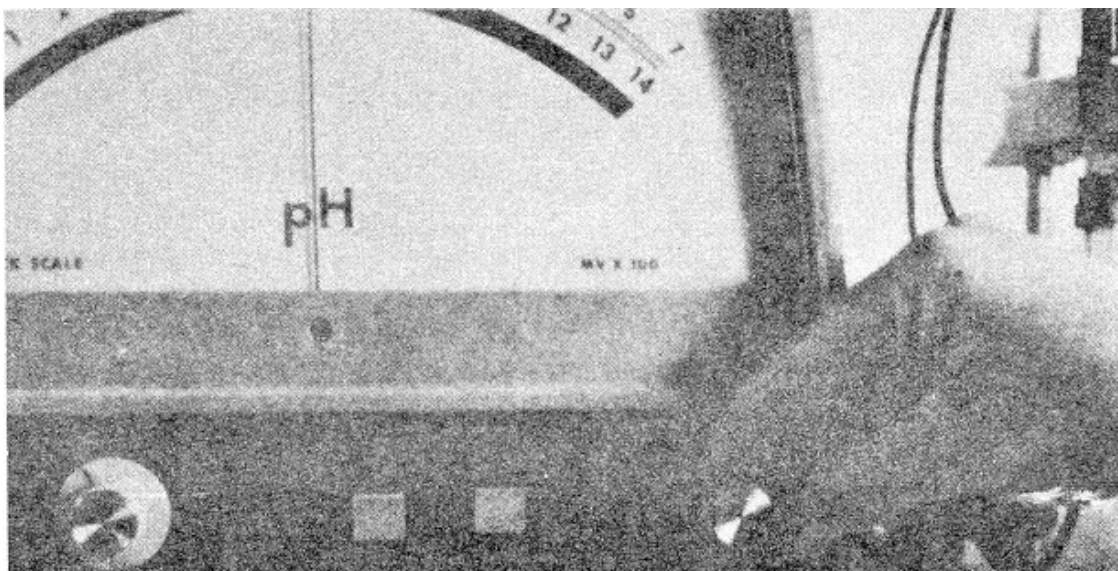

Figure 14
9. Unlock the STANDARDIZE knob rotating the outer ring counterclockwise and adjust the pH scale (black dial) to correspond with the pH of the buffer (figure 14).